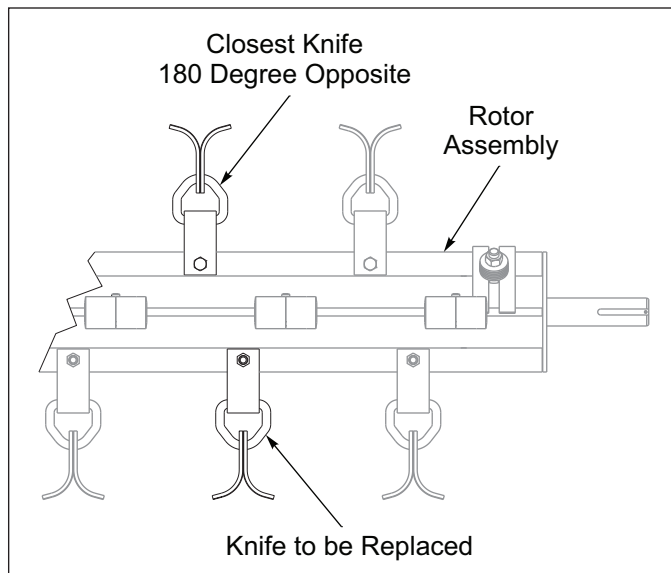

Figure 3-4: Knife Replacement
- Never operate machine without a full set of knives. If one knife assembly is replaced with a new one, the closest one, 180 degrees opposite must also be replaced with a new one to maintain balance. **See Figure 3-4.**